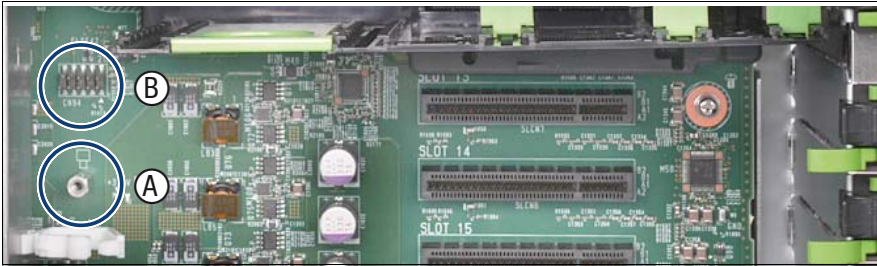

Figure 165: Checking the installation position
- ▶ Place the UFM on the metal spacer (A) and the connector (B) in figure 165 and secure it with the nylon screw.